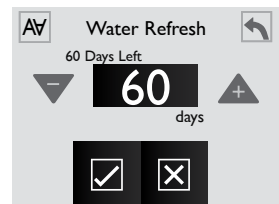

Figure 12.6e
1. From the “Water Care” Menu you can to set the “Water Refresh” timer, Figure 12.6e.